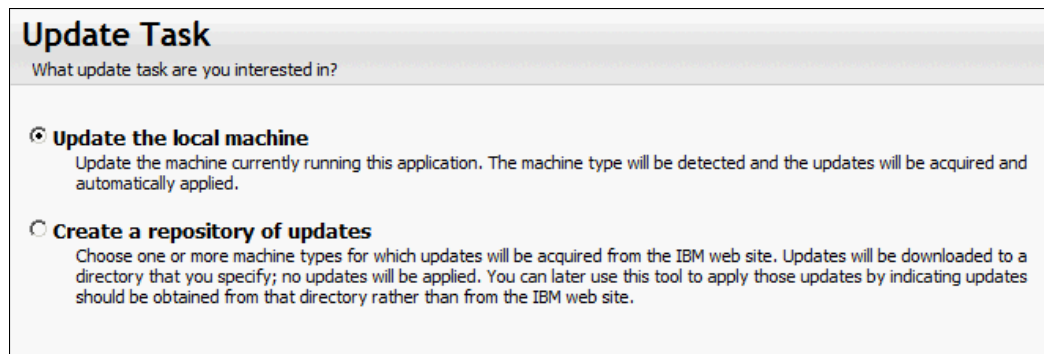

Figure 9-64 Selecting the update task
4. Accept the default **Update the local machine**, as shown in Figure 9-64. Click **Next**.